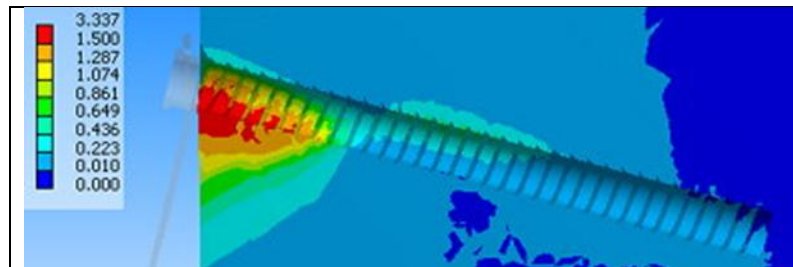

Figure 1.11: +15° placement
- Placing ice screws at a negative angle will result in less stress forces on the ice and better holding power for falls on the protection. 5–14° degrees from perpendicular in the direction of load is the sweet spot according to recent testing. See figures 1.11–1.13.
- Longer screws have tested slightly stronger in recent lake ice tests, but do not appear to be as big a factor in drop tests.^{xx} Longer screws will hold better in soft or very brittle ice, whereas a shorter screw could be pulled out of the ice as the result of a fall. However, since most of the stress happens within the first third of the screw, there is not a significant loss of protection against crushing forces when using shorter screws. See figures 1.11–1.13.